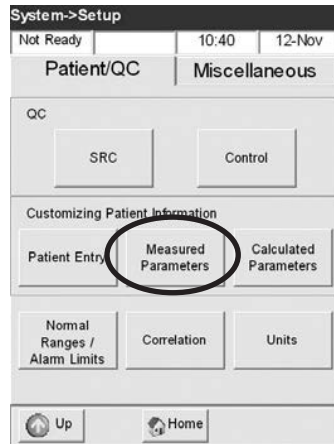

Fig. 3-17 Measured Parameters
2. In the **<System Setup>** menu, press **<Measured Parameters>** (Fig. 3-17).